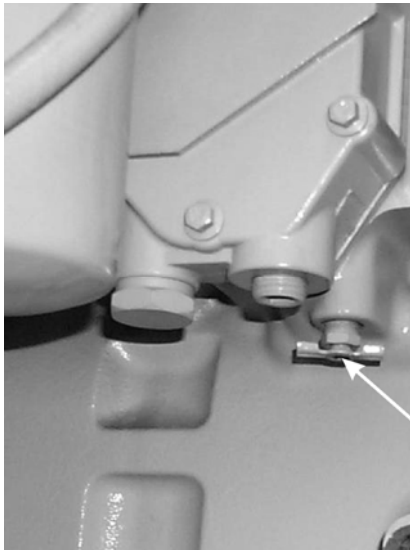
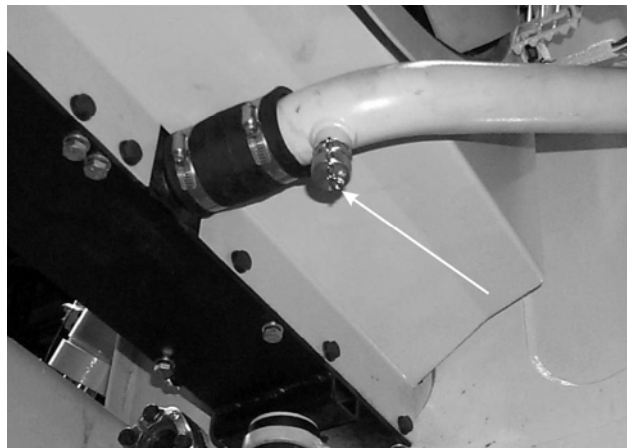

Fig. 5.8. Engine Block Coolant Drain Valve
Fig. 5.8A. Cooling System Drain Valve
6. Remove the protective plug and thread on the drain hose to the drain valve located at the tube (Fig. 5.8A). Drain the coolant to the container.
7. Open the engine drain valve (Fig. 5.8) and drain coolant completely to the container.
1. Unthread the drain hose from drain valve (Fig. 5.8A) and install the protective plug. Close the drain valve (Fig. 5.8).